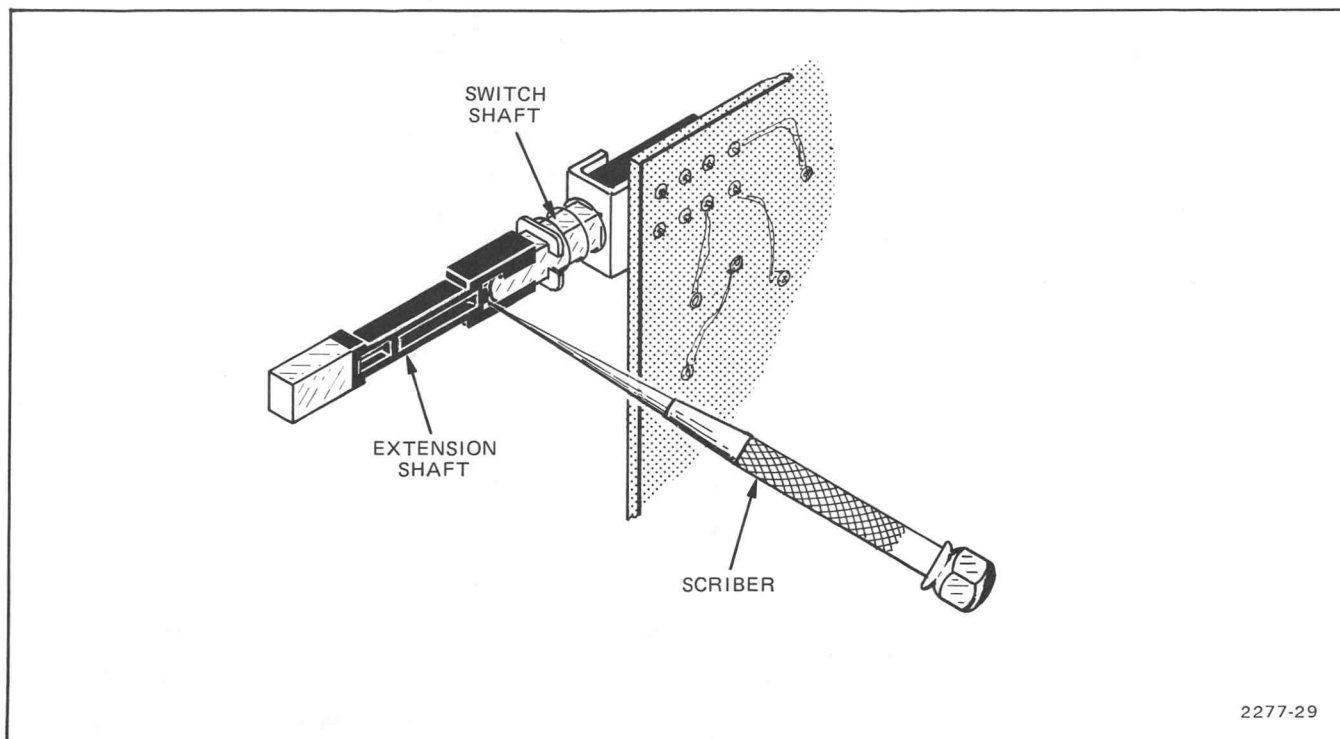

Figure 4-6. Removing pushbutton extension shaft.
To remove extension shafts, insert a sharp pointed tool (such as a scribe) between end of switch shaft and extension shaft. Moving the scribe back and forth will cause extension shaft to be released from the switch shaft. See Figure 4-6.
1. Remove extension shaft from Respiration DISPLAY OFF switch shaft. See Figure 4-6.